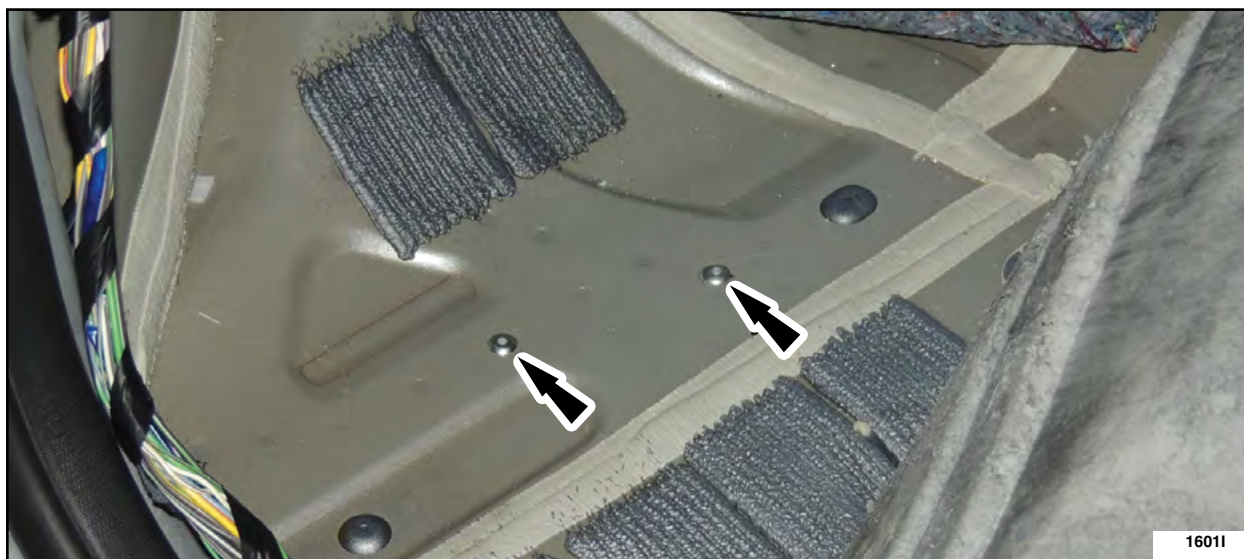

FIGURE 7
7. Install the rivets using a suitable rivet gun, from inside the vehicle. See Figure 7.